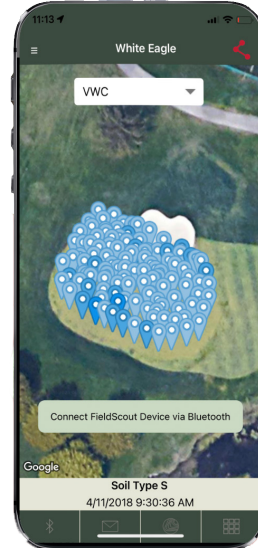

Figure 6 - Freeform Mode
2. **Freeform Mode** - Available with a SpecConnect subscription. Color coded location icons are placed at every measurement point using the coordinates from the internal location of the app's mobile device (Figure 6).